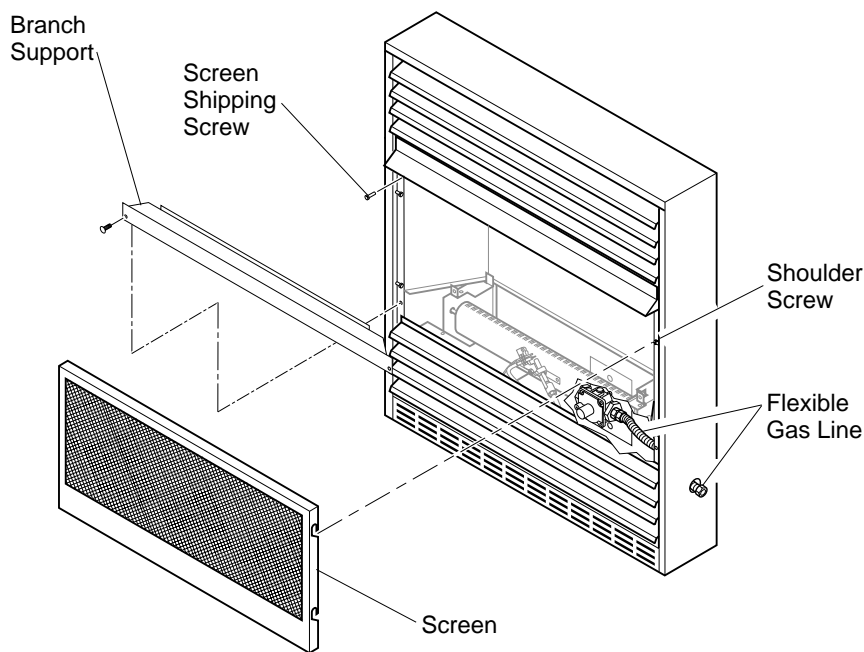

Figure 23 - Removing Branch Support From Fireplace
2. Remove screws that attach branch support to fireplace (see Figure 23). Carefully lift up branch support and remove from fireplace (see Figure 23).
NOTICE: Most building codes do not permit concealed gas connections. A flexible gas line is provided to allow accessibility from the fireplace (see Figure 23). The flexible gas supply line connection to the manual shutoff valve should be accessible.